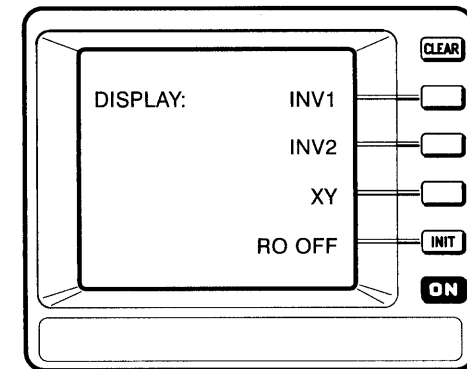

Figure 3-41: The Display Menu
- Step 1:** Press the **DISPL** button on the top panel. The screen appears as shown in Figure 3-41.